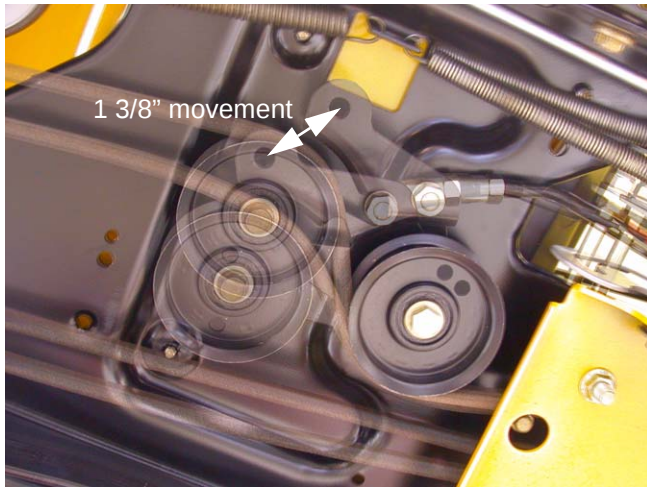

Figure 18.11
18.11. The empty hole in the double idler bracket should swing through an arc of 1 3/8" when 10 lbs. of force is applied to the drive pedal. See Figure 18.11.